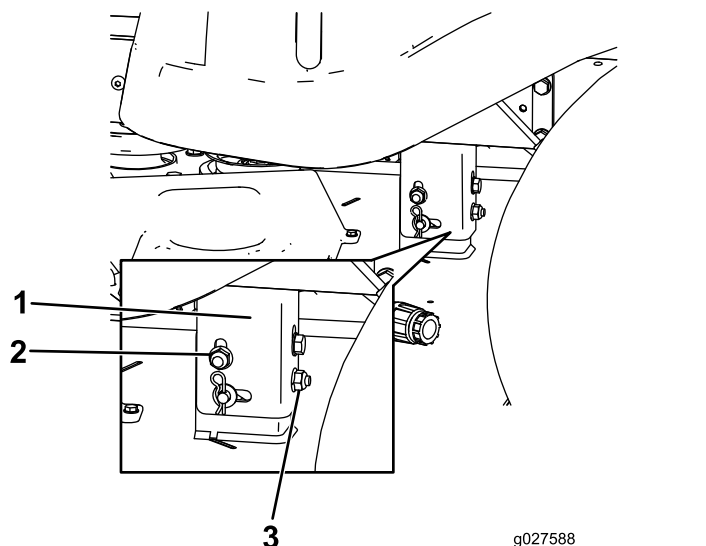

Figure 53
8. Raise or lower the left side of the mower deck by rotating the rear nut. (Figure 53).